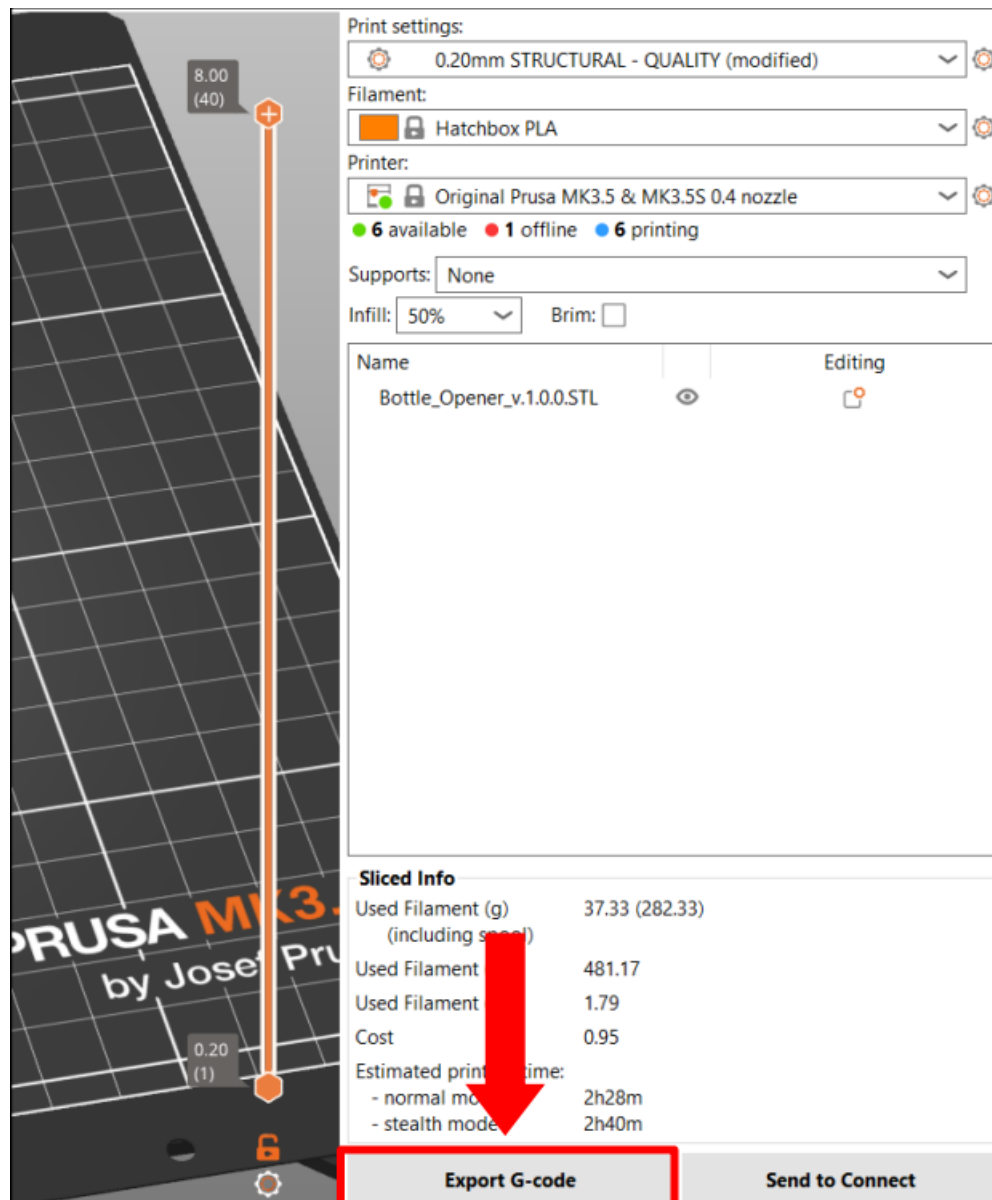

Figure 5. Export G-code Button.
- 9.) Once the slicing is finished, click “Export G-code” (see Figure 5) and save the G-code to a flash drive.